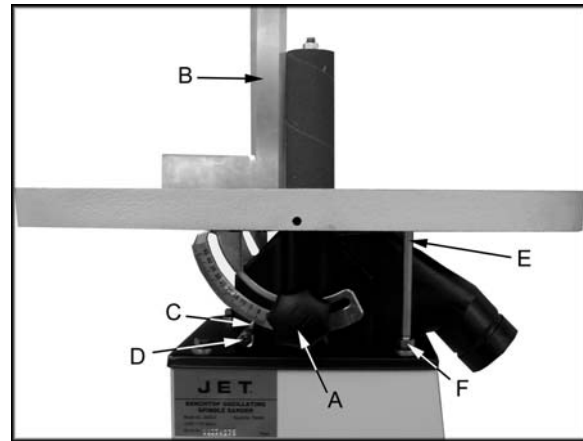

Figure 4
1. Loosen both knobs, (A, Figure 4) and place the table in the 0° position.
2. Place a square (B, Figure 4) on the table. Rest the long section of the square against the sanding drum. The square should be flat against the table and the sanding drum.
4. Make sure the pointer (C, Figure 4) reads 0°. If the pointer needs adjusting loosen the screw (D, Figure 4), and adjust to the correct position.
5. Loosen lock nut (F, Figure 4), adjust the 90° stop bolt (E, Figure 4) with a 13mm open wrench so that it rests against the bottom side of the table, and re-tighten the lock nut (F, Figure 4) with a 12mm open wrench.